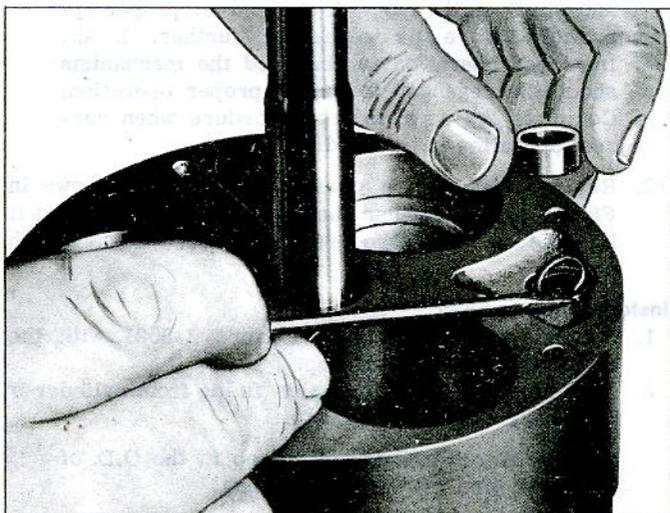

Fig. 55—Installing Discharge Crossover Tube Front "O" Ring and Spacer
3. Install the discharge crossover tube front "O" ring and spacer (fig. 55).